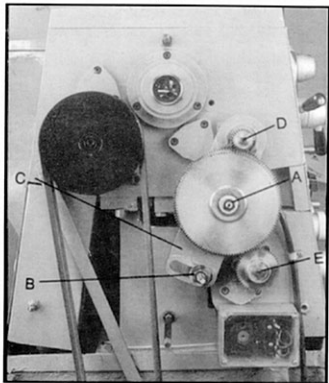

Fig.17
3. Loosen nuts (A & B, Fig. 17).
4. Move quadrant (C, Fig. 17) out of the way and hold in place temporarily by tightening nut (B, Fig. 17).
5. Remove hex socket cap screws (D and/or E, Fig. 17), depending on which gear is to be changed.
7. Loosen nut (B, Fig. 17), move quadrant back so teeth mesh on gears, and tighten nuts (A & B, Fig. 17). **Caution: Make sure there is a backlash of .002"-.003" between gears, Setting the gears too tight will cause excessive noise and wear.**